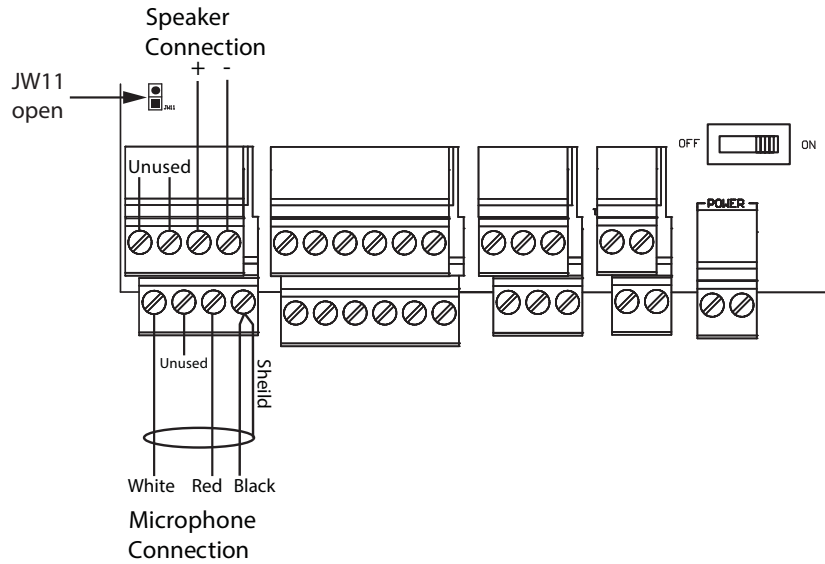

Figure 5 Microphone wiring on MD-1245
1. Connect the 4-pin connector on the wiring harness to the 4-pin terminal on the lobby controller board as shown in Figure 5.
2. If there is a jumper on JW11, remove it (see Figure 5).